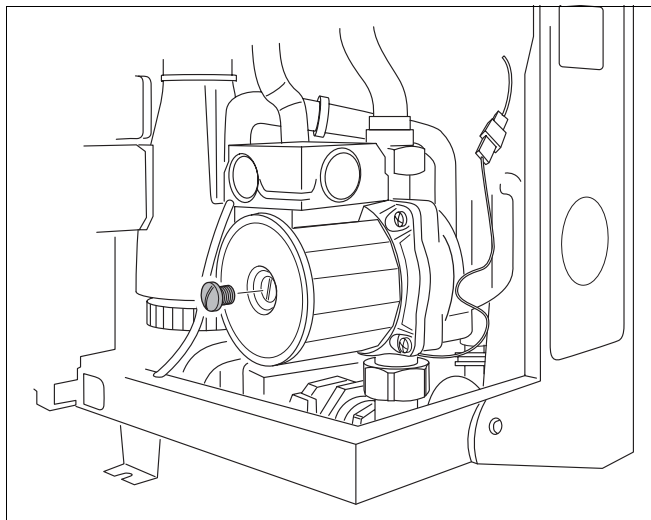

Fig. 62 600 Series 11S / 19S / 24S / 24C:
- Remove screw plug on circulation pump (fig. 62).